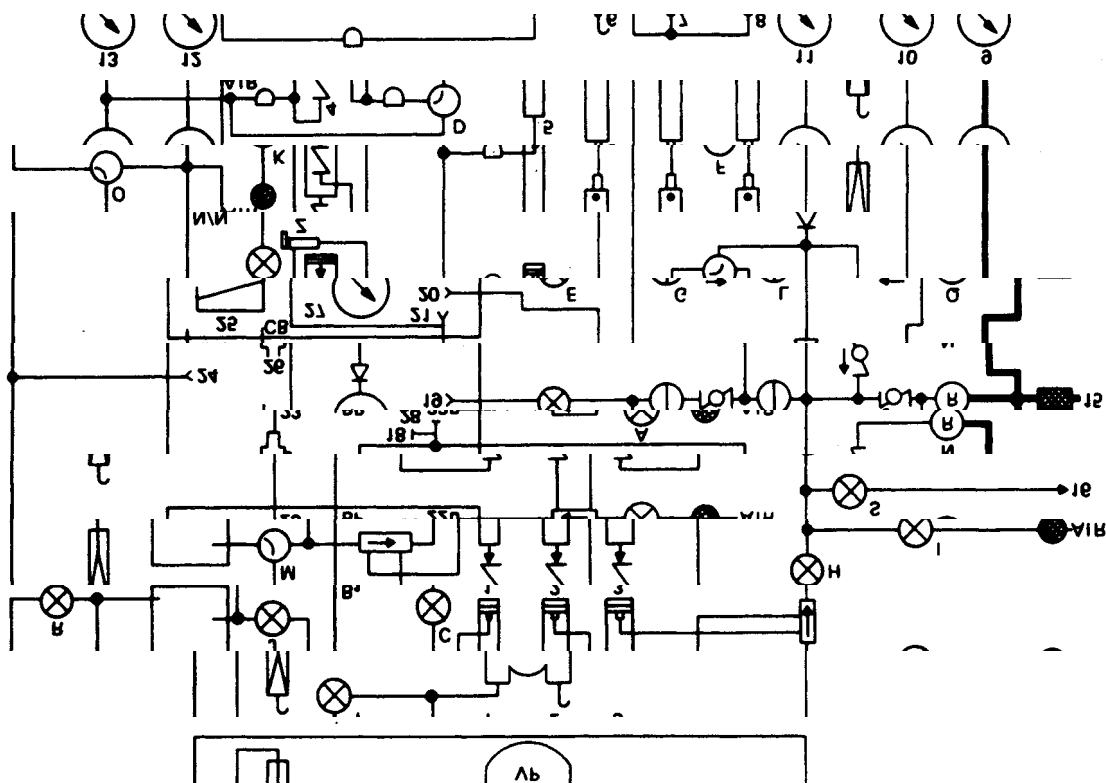

Figure 2-3.—Model 1172AS100 supply nitrogen system.
weekly. In the schematic in figure 2-3, the nitrogen (N_2) supply cylinder is located on the right side of the test stand and is connected to the N_2 input connector. When you open the supply cylinder valve, nitrogen flows to the high-pressure regulator (Q) and the low-pressure regulator (N).